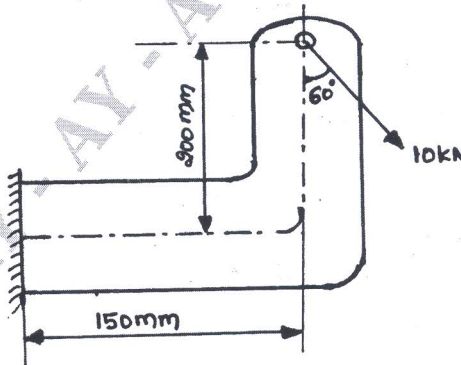

Fig Q2(a)
- 2 a. A mild steel Bracket shown in Fig Q2(a) is subjected to a pull of 10kN. The Bracket has a Rectangular cross section whose depth is twice the width. If the allowable stress for the material is 80 N/mm^2 , determine cross section of the Bracket.